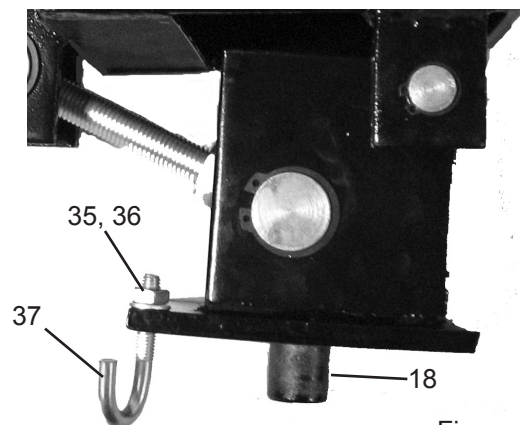

Figure 5
- Bring Chain across the Base and attach the loose end link of the Chain to the Hook Bolt. See Figure 5.
7. The bottom of the Base Shaft (18) is then securely placed into the saddle of the Transmission Jack to firmly hold the Transmission Adapter in place. See Figure 5.